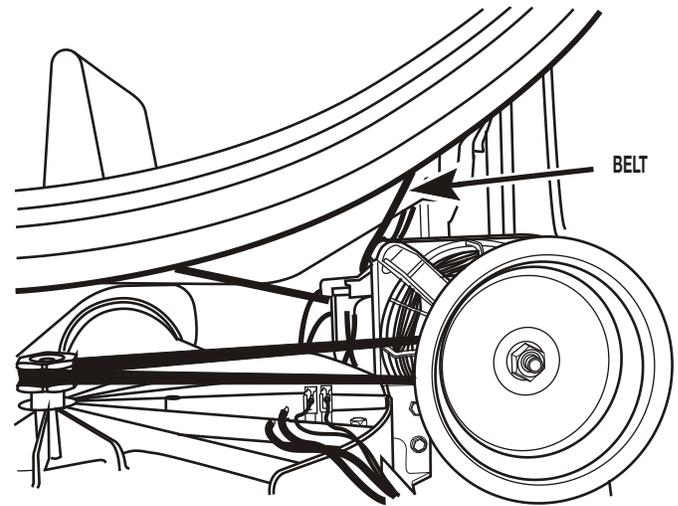

FIGURE 4
- Reach around the back of the drive motor and push the idler wheel arm to relieve the spring tension on the belt, then slide the belt off the idler and motor pulleys. See *Figure 4*.